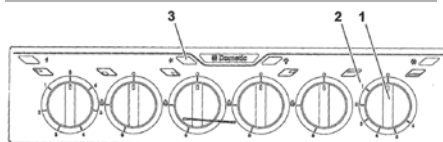

Fig 7
- To generate the flame, fully press down the control knob (Fig. 7 1) and turn it from position 1 to 6 (Fig. 7 2).
- Simultaneously push down the electronic ignition button (Fig. 7 3).
- To adjust the flame, turn the knob to the desired position (Fig. 7 1).